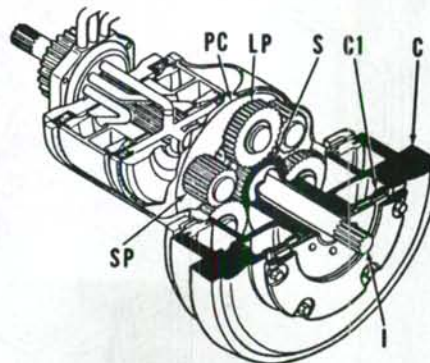

Fig. 114—With C-1 clutch engaged, secondary sun gear (S) is locked to carrier (C) as shown by black shading making secondary sun gear a stationary drive member.
CLUTCH C-1 (Fig. 114) when hydraulically engaged, couples the secondary sun gear (S) to carrier housing (C), making the sun gear a stationary drive member. Power is transmitted from input shaft (I) and small planet pinions (SP) to large planet pinions (LP), which walk round stationary sun gear (S) driving planet carrier (PC) in the same direction as input shaft but at a slower rate of speed. Clutch C-1 is hydraulically engaged in Low (1) and Intermediate (2) forward speeds. Clutch C-1 is the Starting Output clutch for forward loads and is provided with additional pressurized lubrication for smooth engagement and long life.